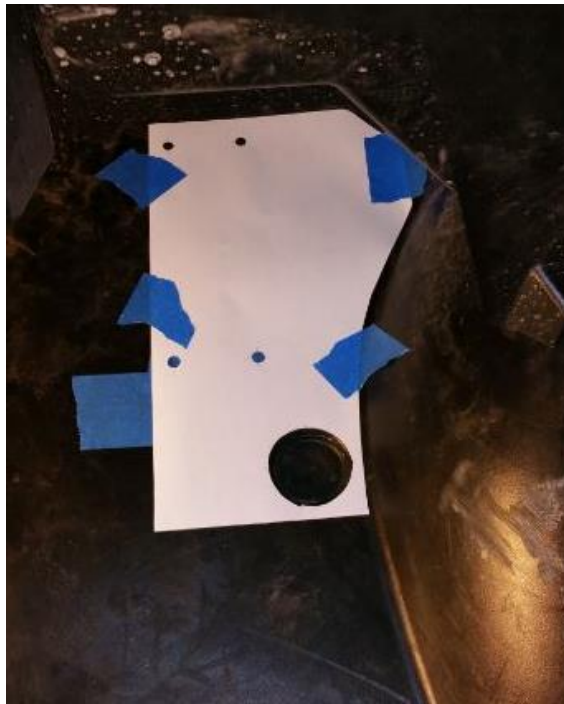

Figure 7
24. Cut out the Heater Mounting Template (Template #1) and attach it to the passenger side firewall following the orientation markings on the template. See Figure 7.